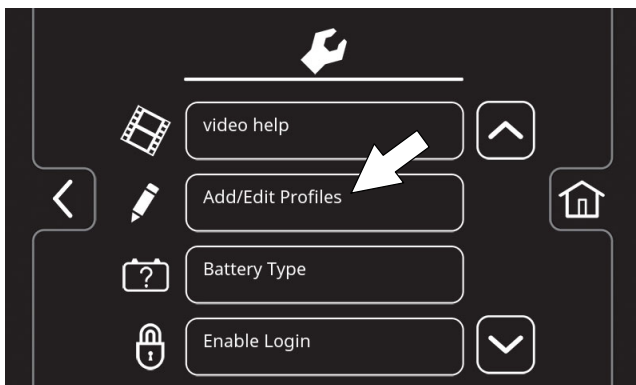

FIG. 198
2. Press the Add/Edit Profiles button (Figure 198).